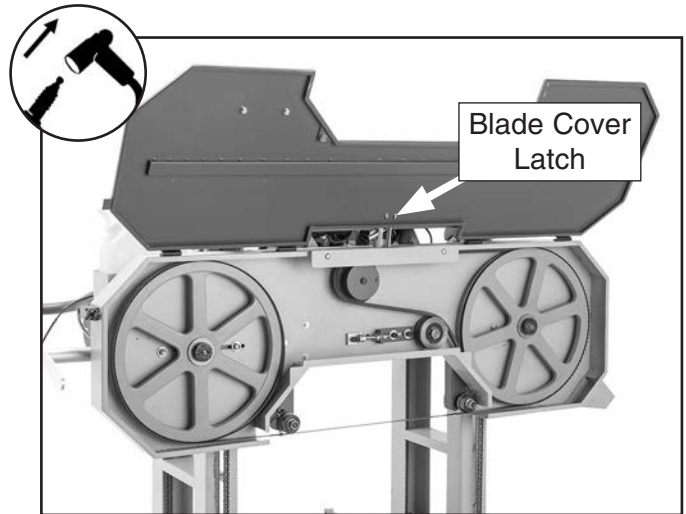

Figure 69. Blade cover supported by blade cover latch.
2. Open blade cover and secure to blade cover latch (see **Figure 69**).